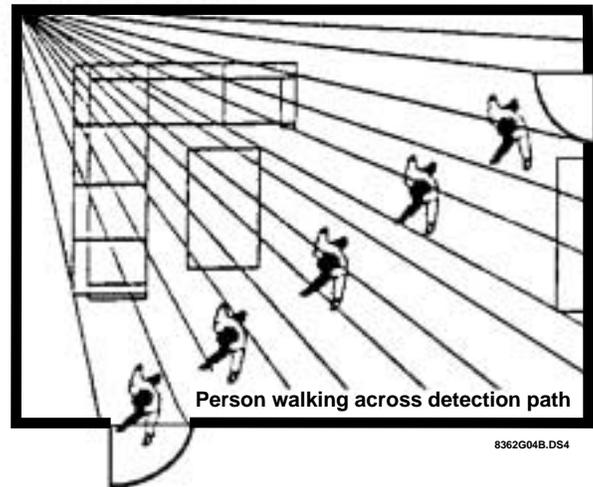

Figure 1. Overhead View of Detection Pattern
- Position the sensor to protect an area where intruders are most likely to walk *across* the detection pattern (see Figure 1).